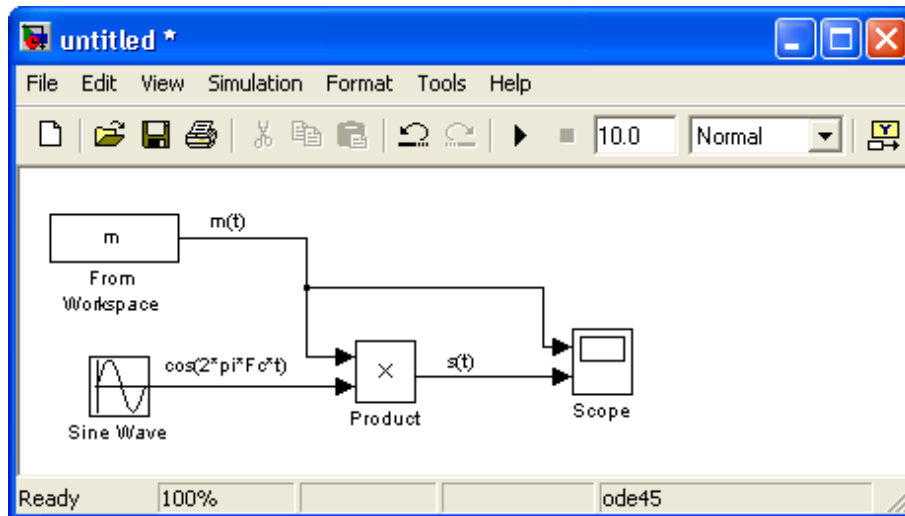

Figure 19: Design Window Showing Two Input Scope
- c. In the design window connect the Output Port on the Product block to the bottom Input Port on the Scope block. The next step is to connect the output of From Workspace block to the top Input Port on the Scope block. To do this move the arrow cursor over the line connecting the From Workspace block to the Product block, hold down the Ctrl key on the keyboard, select and hold the left mouse button, which will change the cursor into a cross hair. Drag the resulting line to the Input Port of the Scope. (Note that this can also be done using the right mouse button, move the mouse over the line and right click and hold, drag the resulting line to the Input Port.) The resulting design window is shown in Figure 19.